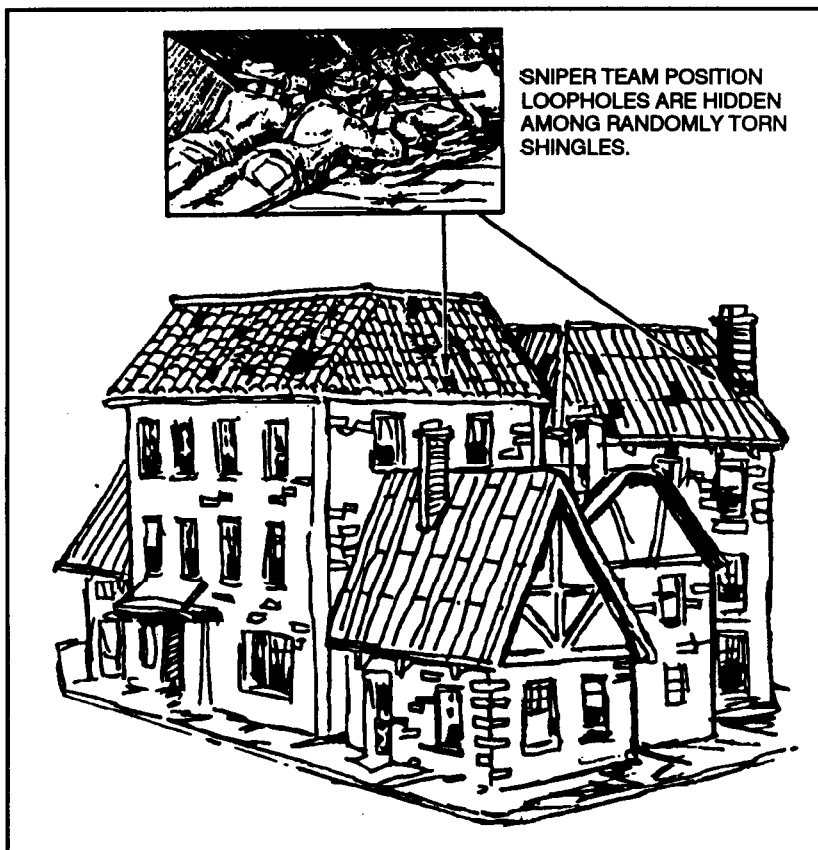

Figure 4-15. Rafter hide positions.
(3) **Rafter hide position.** The sniper team constructs a rafter hide position in the attic of an A-frame-type building. These buildings normally have shingled roofs (A and B, Figure 4-15). Firing from inside the attic around a chimney or other structure helps prevent enemy observation and fire.